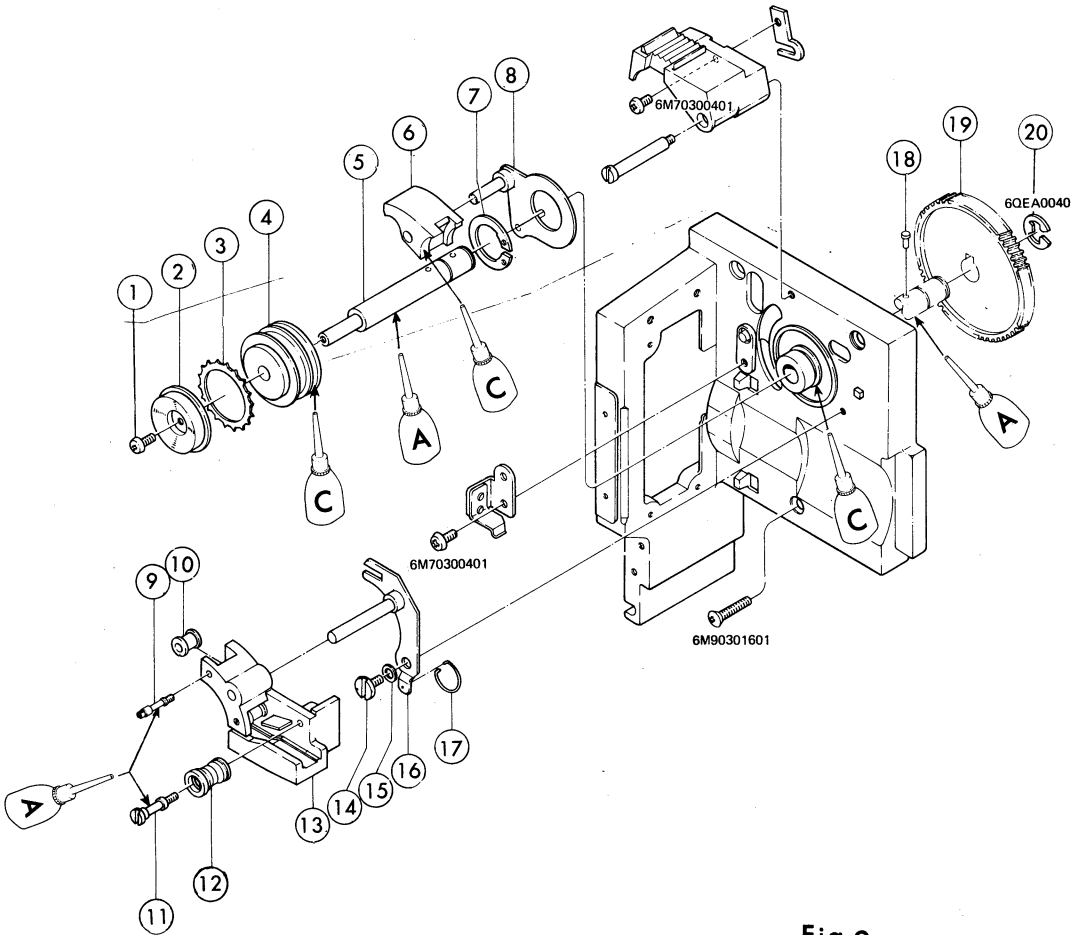

Fig 9
A. Disassembly Refer to Fig.9.
1. Remove (20) and take off (18)(19).
3. Remove (14) and take off (15)(16)(17).
4. Remove a lever II spring (illustrated on P6-10 of parts list) and take off (8) with a stop-ring pliers (P006).